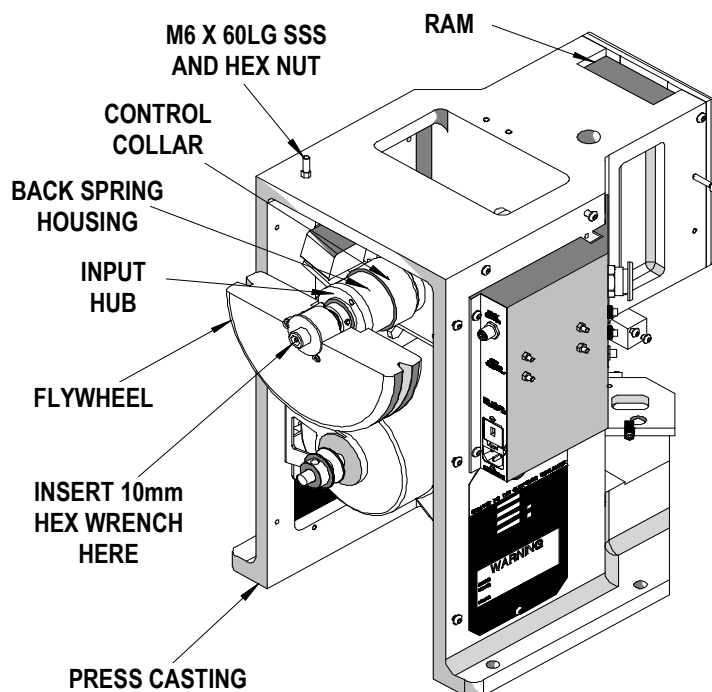
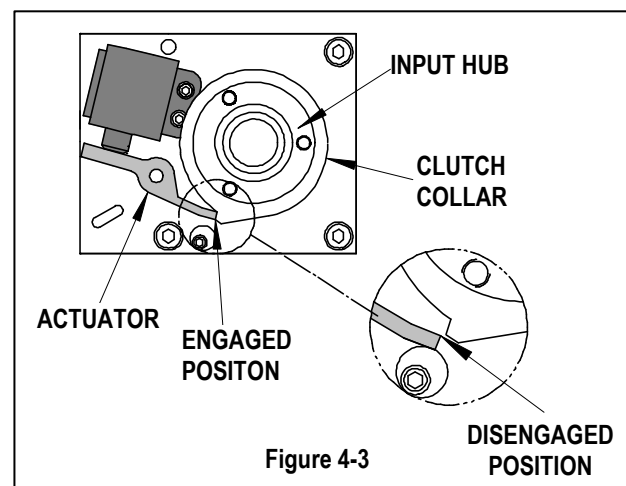

Figure 4-2
Figure 4-3
3. Always return the press back to top dead center insuring that the clutch collar is engaged by the actuator. This is done by reversing the direction of the 10mm wrench after hearing the clutch actuator make a click sound. See Figure 4-3.
1. Remove the rear cover of the TM-2000 press. Verify that the clutch control collar is in the locked position. See Figure 4-3. Insert the 10mm hex wrench into the socket head cap screw. This screw is located in the center of the flywheel. See Figure 4-2. This screw is spring loaded to prevent the wrench being left in the unit.
3. Next, rotate the input hub/flywheel clockwise by hand. The input hub/flywheel should be free to rotate. During this portion of the operational check, the black spring housing should not rotate. See Figure 4-2.
CAUTION: By disengaging the actuator, (See Figure 4-3) the ram will be free to move. The weight of the ram can result in downward motion. Use caution to ensure that the area under the ram is clear of fingers and hand tools. The machine guard should be in place.
1. Verify that the clutch control collar is unlocked. See Figure 4-3. The crankshaft, input hub/flywheel, and black spring housing should rotate freely with the 10mm wrench moving the ram down and up.
1. Locate the retaining ring in front of the clutch control collar, (See Figure 4-2). Using a regular tip screwdriver, unseat the ring from its groove and slide it toward the flywheel.